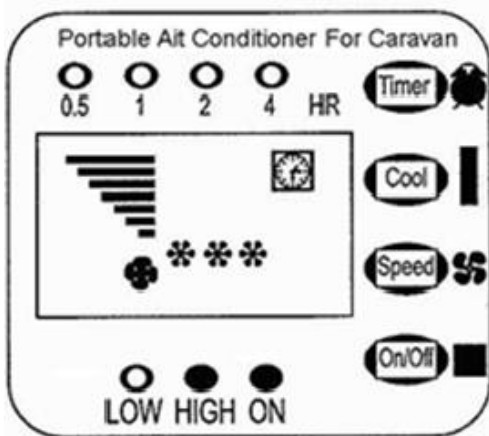

Fig . 5
Press again on COOL to set the ambient temperature to 22°C. The screen will display three (3) stars (Fig. 5).